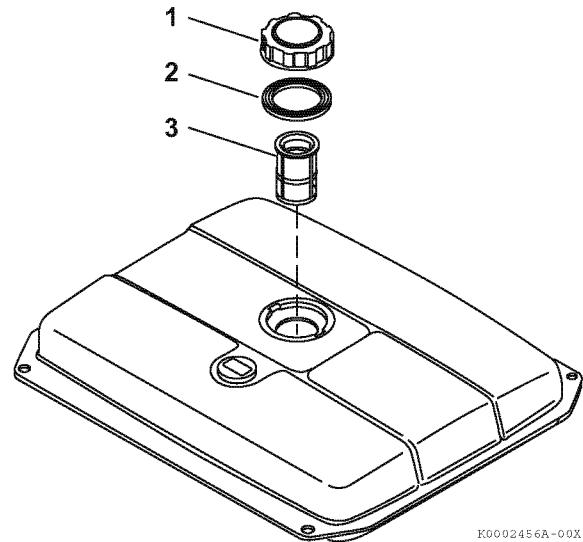

Figure 41
1. Clean the area around the fuel cap (1, **Figure 41**).
3. Lift out the inlet fuel screen (3, **Figure 41**).
5. Inspect fuel cap gasket (2, **Figure 41**) and replace if damaged.